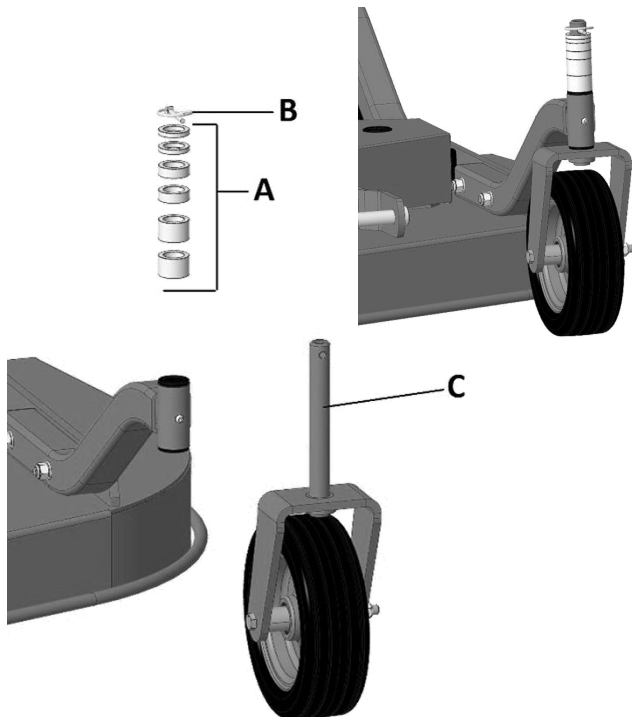

Figure 5
2. While holding the wheel and yoke assembly up, remove the lynch pin [Figure 5, Item B] from the top of the gauge wheel spindle [Item C].